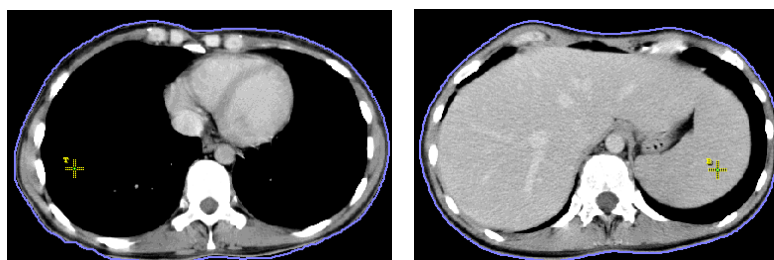

Figure 274 – Defining the top point and bottom point of the bolus
- The top point and the bottom point (the cursor is marked as **T** and **B** respectively) can be selected in any image in the current view. It is not necessary that these points are located on the contour line but simply in a view displaying the same image series (see Figure 274).